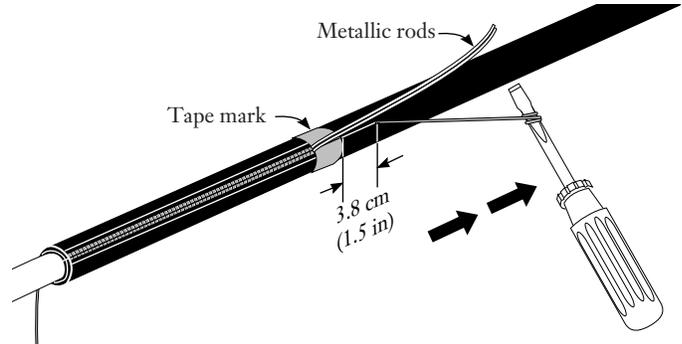

Figure 35
7.14 Again, using the shaft of the screwdriver as a handle, pull the two remaining rip cords, one at a time, through the exposed armor, tape, and sheath to a point approximately 3.8 cm (1.5 in.) past the tape mark (Figure 35). Cut both rip cords flush with the cable sheath.